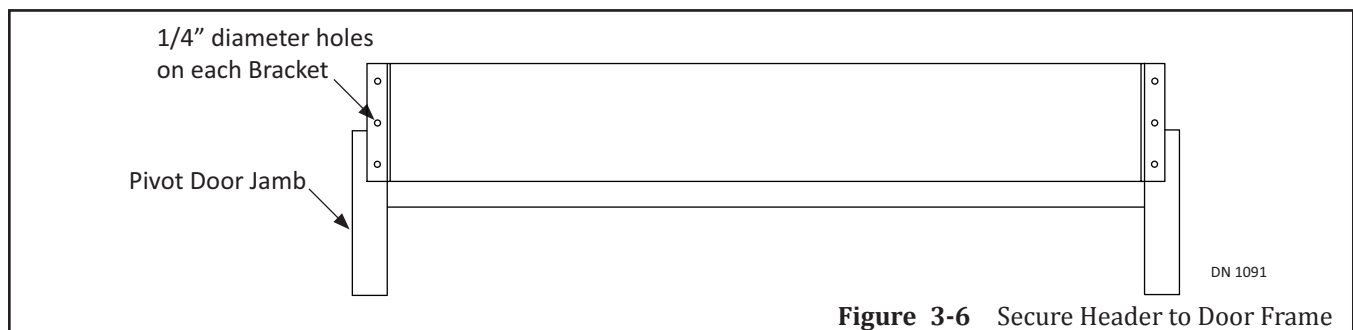

Figure 3-6 Secure Header to Door Frame
4. Secure the Header to the Door Frame. Please see Figure 3-6.